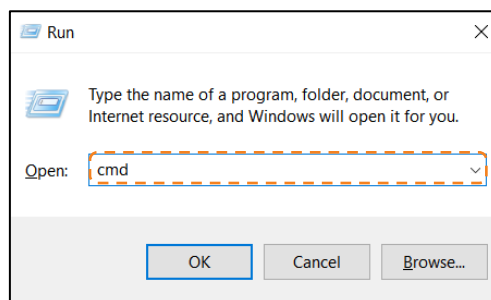

Figure 282 Type “cmd”
- Step 3.** Type "CMD," then press the “Ok” button. (Figure 282)